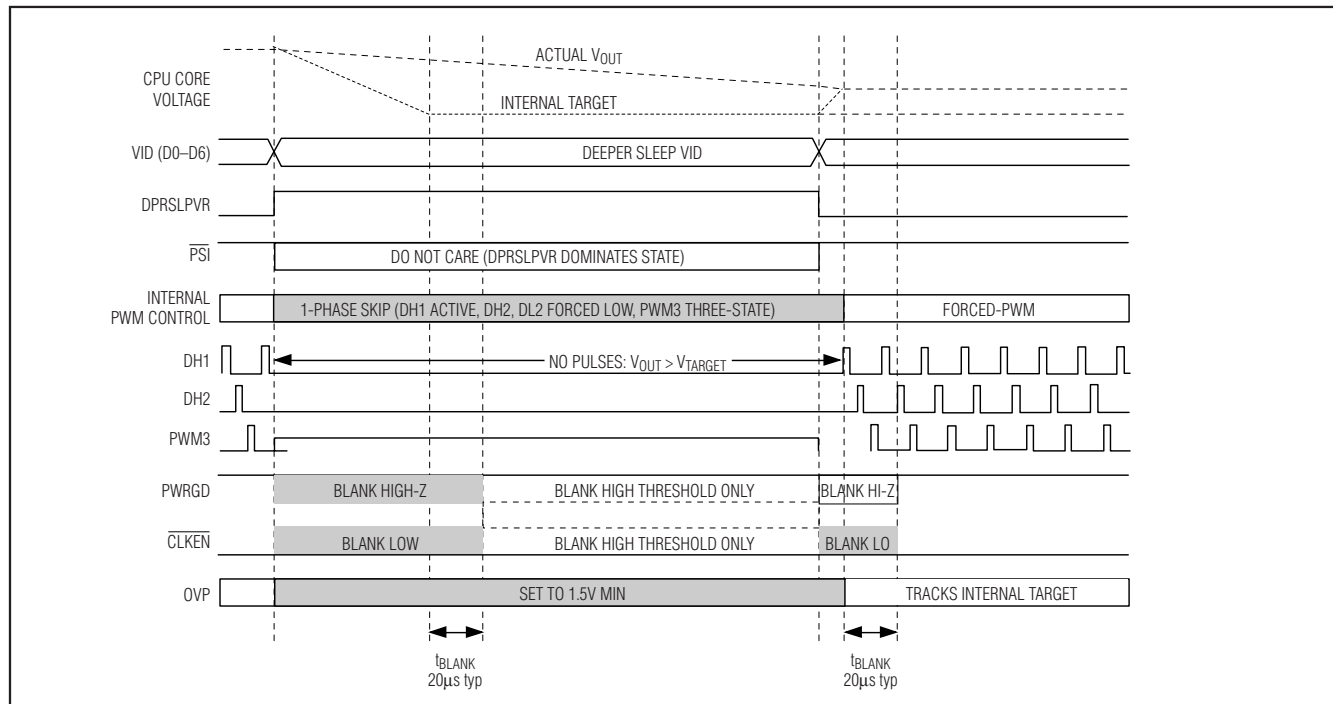

Figure 5. C4E (C4 Early Exit) Transition
When DPRSLPVR goes high, the MAX17030/MAX17036 immediately disable phases 2 and 3 (DH2, DL2 forced low, PWM3 three-state,  $\overline{\text{DRSKP}}$  low), and enter pulse-skipping operation (see Figures 5 and 6). If the VIDs are set to a lower voltage setting, the output drops at a rate determined by the load and the output capacitance. The internal target still ramps as before, and PWRGD remains blanked high impedance until 20 $\mu$ s after the output voltage reaches the internal target. Once this time expires, PWRGD monitors only the lower threshold:
- **Fast C4E Deeper Sleep Exit:** When exiting deeper sleep (DPRSLPVR pulled low) while the output voltage still exceeds the deeper sleep voltage, the MAX17030/MAX17036 quickly slew (50mV/ $\mu$ s min regardless of  $R_{\text{TIME}}$  setting) the internal target voltage to the DAC code provided by the processor as long as the output voltage is above the new target. The controller remains in skip mode until the output voltage equals the internal target. Once the internal target reaches the output voltage, phase 2 is enabled. The controller blanks PWRGD and  $\overline{\text{CLKEN}}$  (forced high impedance) until 20 $\mu$ s after the transition is completed. See Figure 5.